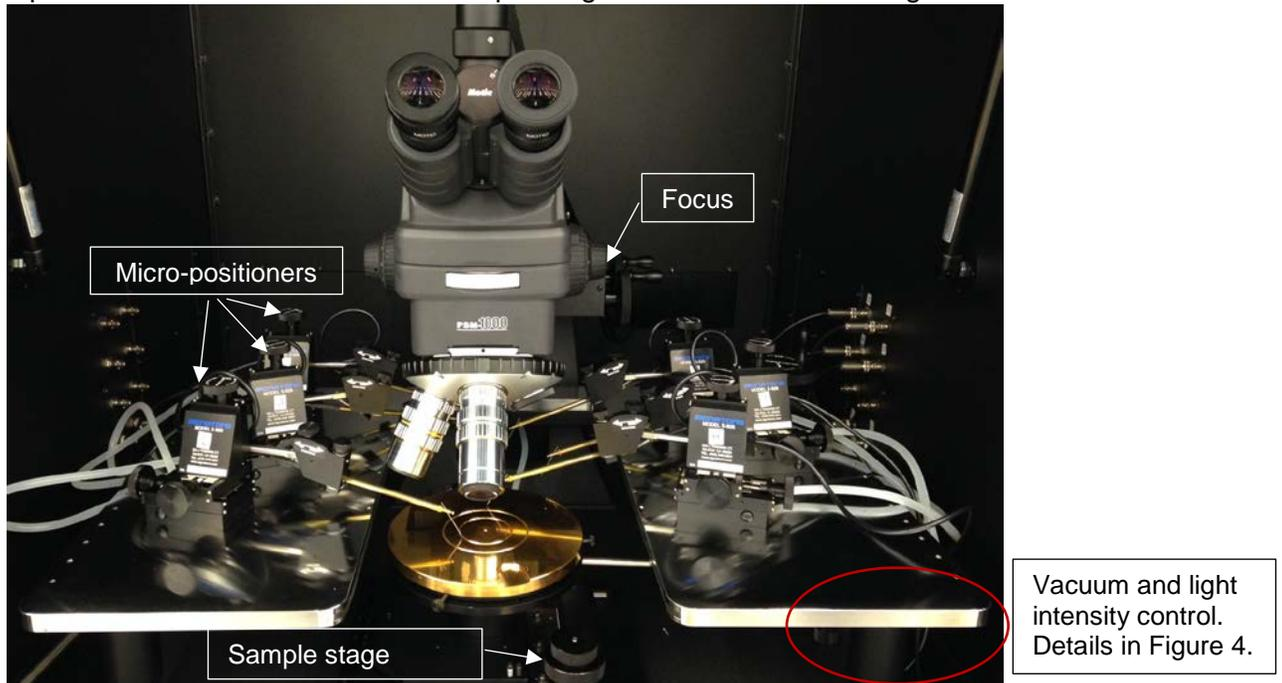

Figure 3: Inside the dark box.
2. Open the dark box and move the sample stage out with the knob in Figure 3.